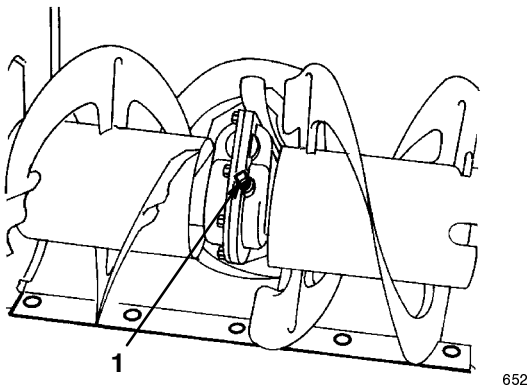

Figure 12
3. Clean the area around the pipe plug to remove any dirt (Fig. 12).
4. Remove the pipe plug from the gear box (Fig. 12).